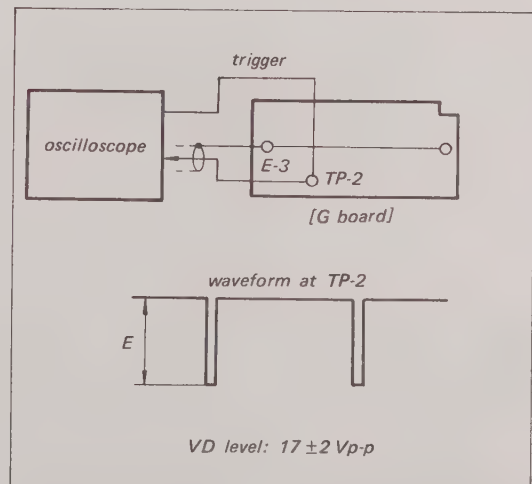

Fig. 8-20. Check of servo reference signal in record mode
1. Connect the scope probe to TP-2 on the G board. See Fig. 8-20.
4. The waveform at TP-2 should appear as shown in Fig. 8-20, $17 \pm 2V$ (p-p).